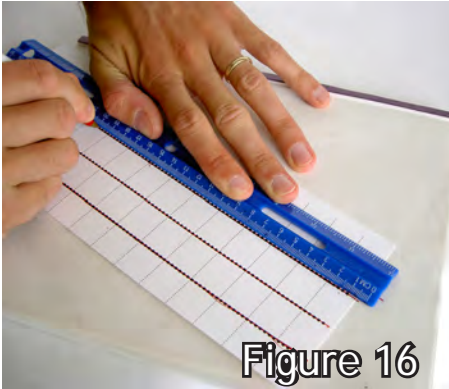
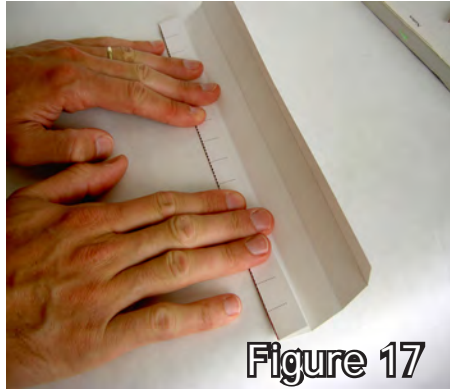
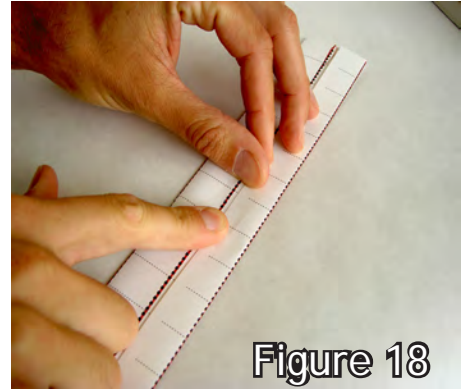

Figure 16
Figure 17
Figure 18
1. Trace (fig. 16), fold (fig. 17), and tape (fig. 18) a beam in the same way you would make a column.